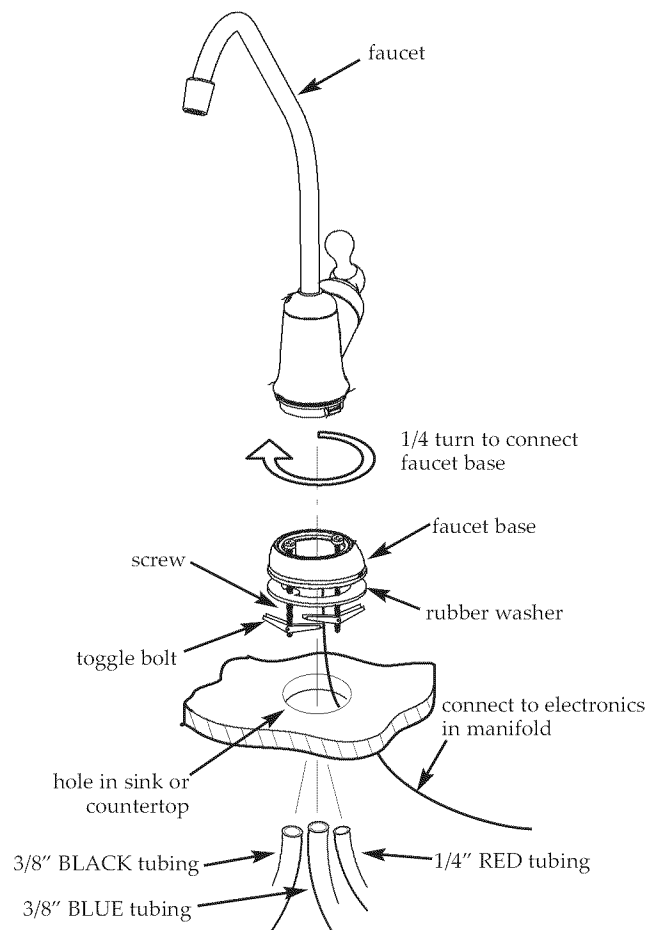

Figure 13
1. Locate and organize your RO faucet install parts. Refer to Figure 13.